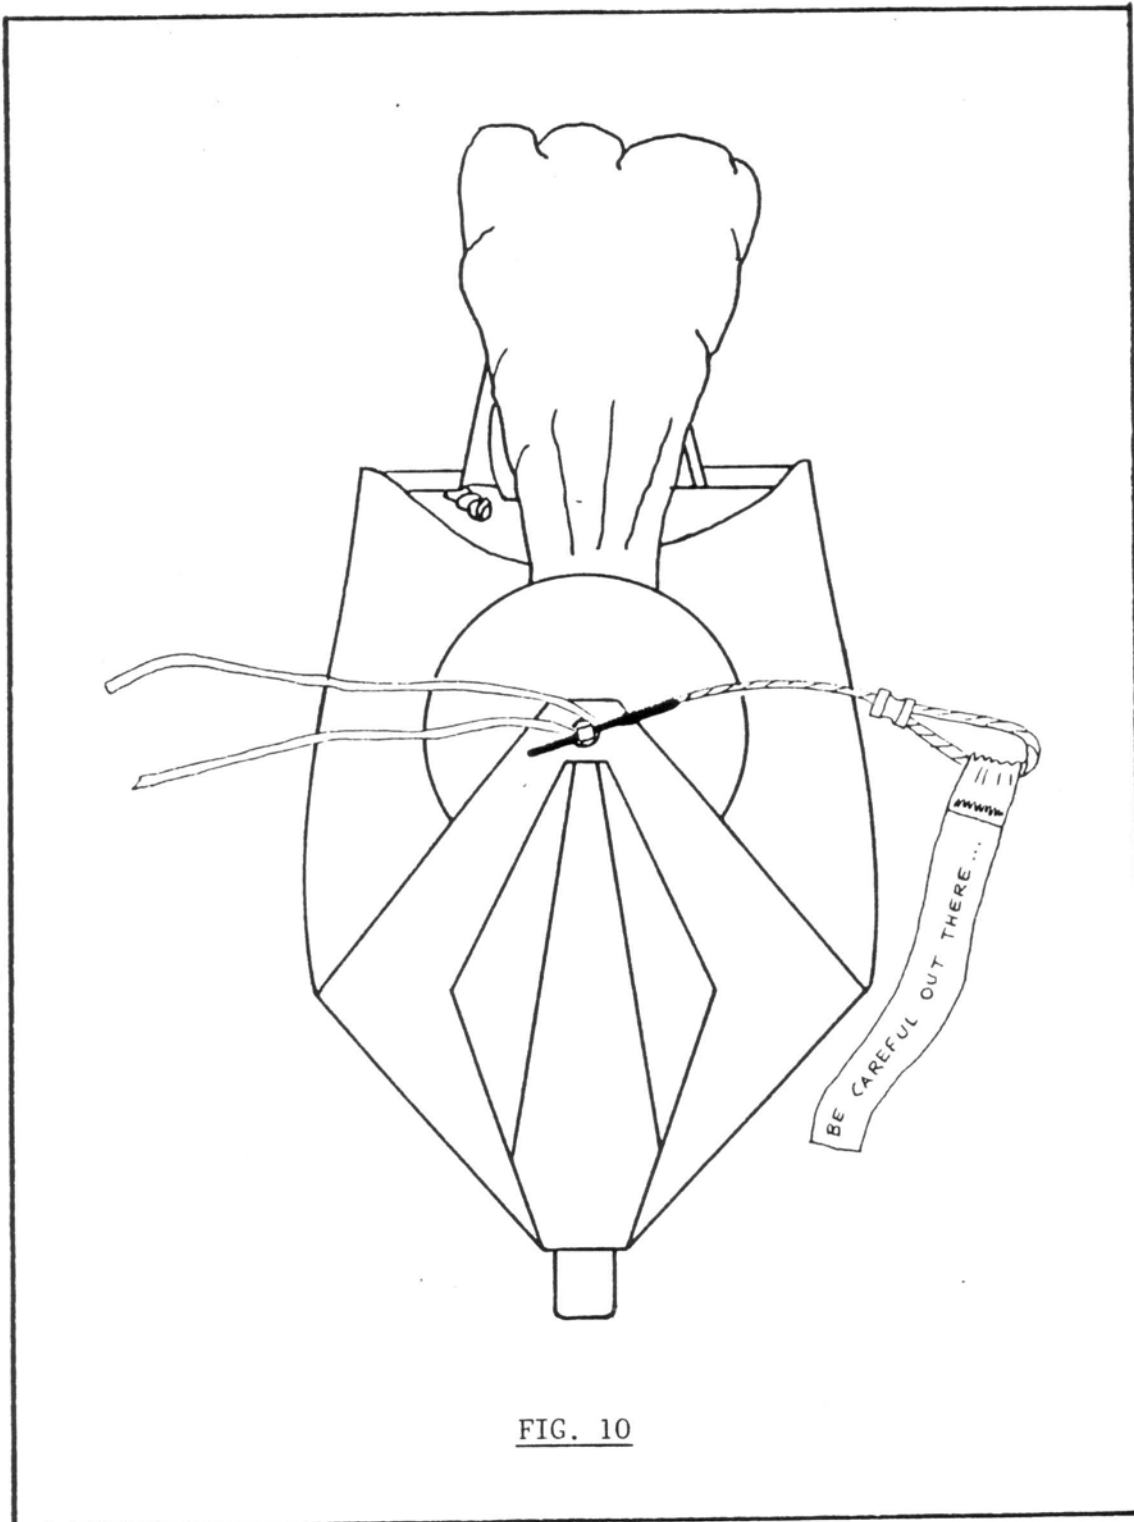

FIG. 10
- 10) Part of the lower half of the pilot chute which now extends downward can be tucked under the top plate (but not so much as to cause the top plate to tilt forward). The rest should be arranged in a loose fold or roll and laid on top of the folded bridle. Close the bottom flap and secure it with the temporary pin (FIG. 10).